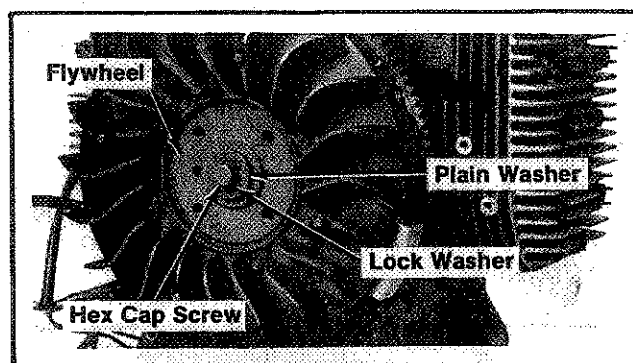

Figure 9-17. Removing Flywheel Fastener.
2. Hold the flywheel with the strap wrench and loosen the hex cap screw. Remove hex cap screw, split lock washer, and plain washer. Refer to Figure 9-17.